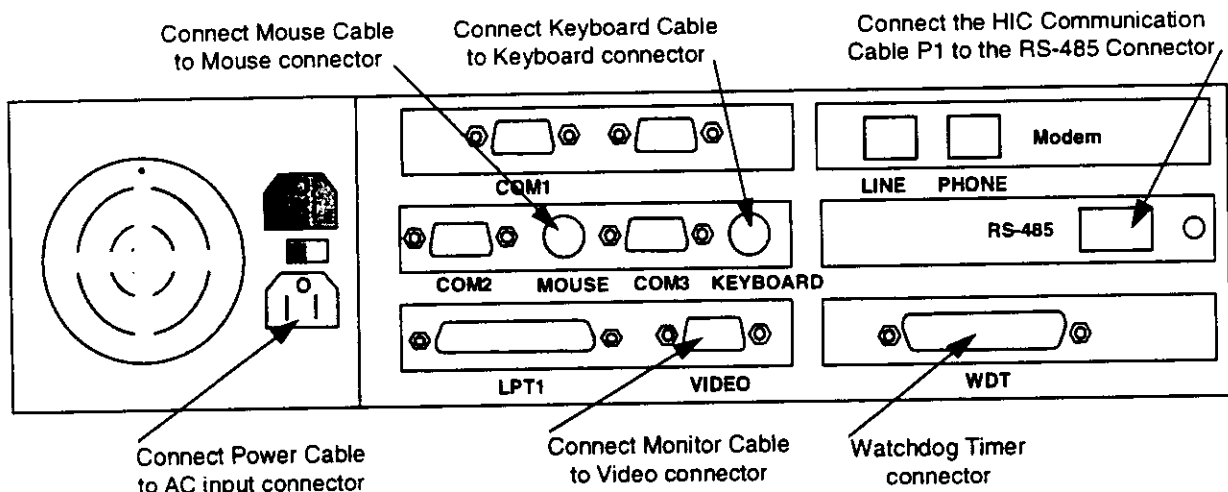

Figure 2-5. HECU Computer Rear View
- k. Connect the keyboard cable to the Keyboard connector on the rear of the HECU Computer. See Figure 2-5.
- l. Connect the mouse cable to the Mouse connector on the rear of the HECU Computer. See Figure 2-5.
- p. Connect the HECU monitor video cable to the Video connector on the rear of the HECU Computer. See Figure 2-5.